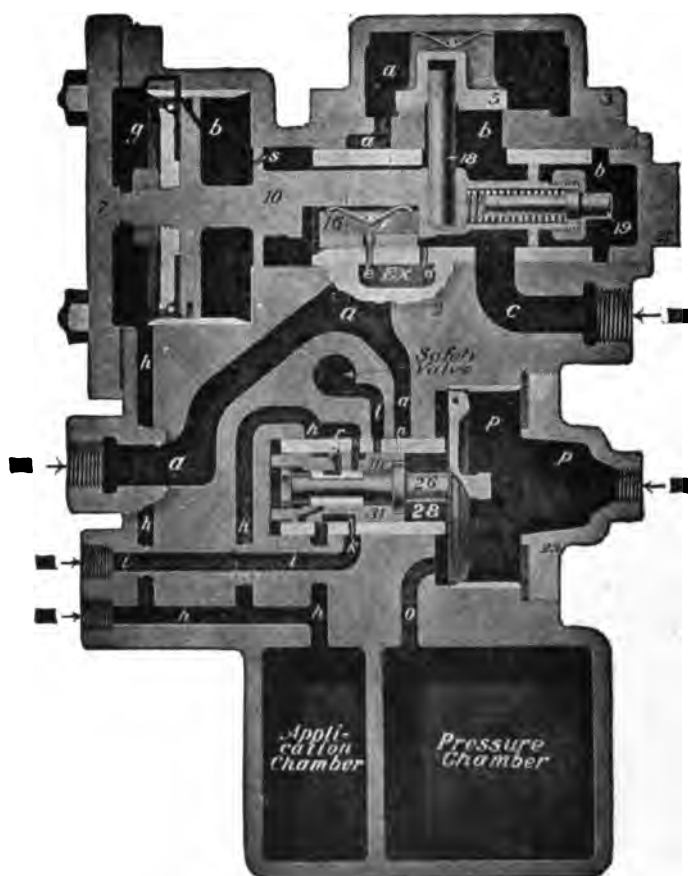
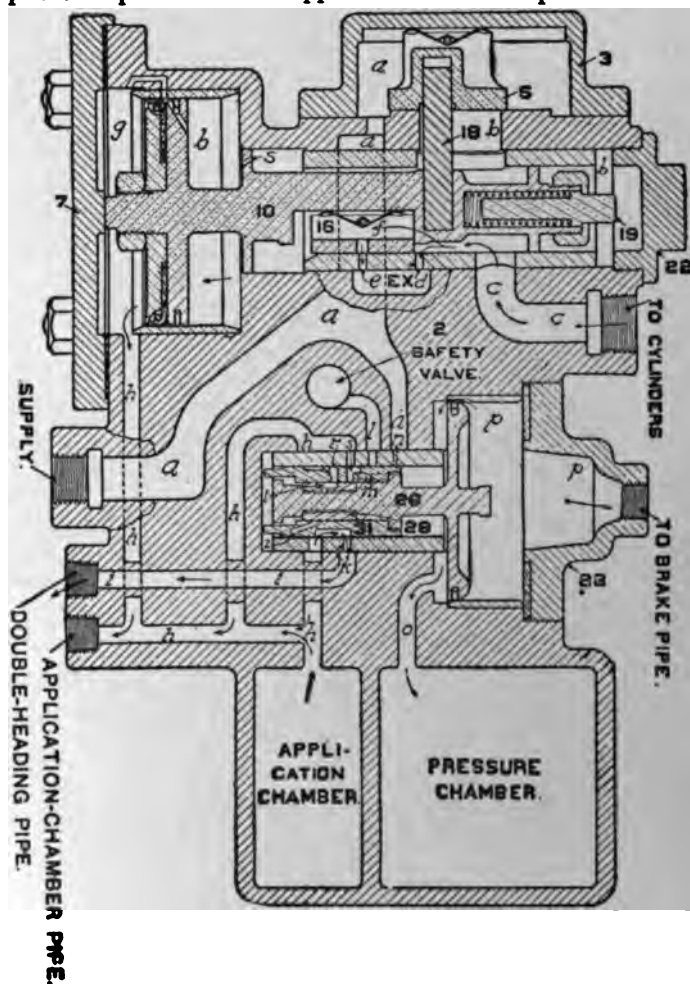

FIG. 269. THE DISTRIBUTING VALVE, DIAGRAMMATIC
FIG. 270. RELEASE, AUTOMATIC OR INDEPENDENT
Fig. 269 shows the operative parts in the same position as in Fig. 270 and is used merely for the sake of greater clearness. Referring to these figures it will be seen that main-reservoir pressure is always present in the chamber surrounding application valve 5 by its connection through passage *a, a*, to the main-reservoir pipe. Chambers *b* to the right of application piston 10 are always in free communication with the brake cylinder through passage *c* and brake-cylinder pipe. Chamber *g* at the left of application piston 10 is a portion of the application chamber, being always connected with it by passage *h*, and is also connected to the brake valves through the application-chamber pipe.
**INDEPENDENT RELEASE.** When the handle of the independent brake is moved to release position, a direct opening is made through the rotary valve from the application chamber to the atmosphere. This permits the pressure in the application chamber to escape; therefore, as this pressure is being exhausted, brake-cylinder pressure in chamber *b* moves application piston 10 to the left, causing exhaust valve 16 to open exhaust ports *c* and *d* as shown in Fig. 270, thereby allowing brake-cylinder pressure to escape to the atmosphere.
**AUTOMATIC RELEASE.** Referring to Fig. 270, which shows the movable parts of the valve in the release position, it will be seen that as chamber *p* is connected to
When the automatic brake valve is placed in release position, and the brake-pipe pressure in chamber *p* is increased above that in the pressure chamber, equalizing piston 26 moves to the left, carrying with it equalizing slide valve 31 and graduating valve 28 to the release position as shown in Fig. 270. The feed groove now being open permits the pressure in the pressure chamber